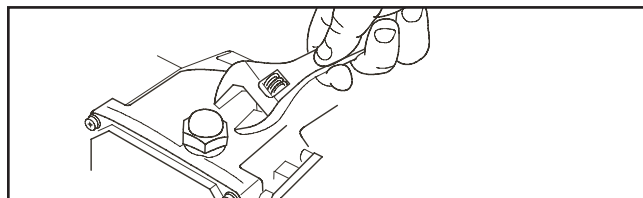

Figure 45 — Removing Pump's Oil Filler Cap
5. Remove pump's oil filler cap and o-ring (see Figure 45).